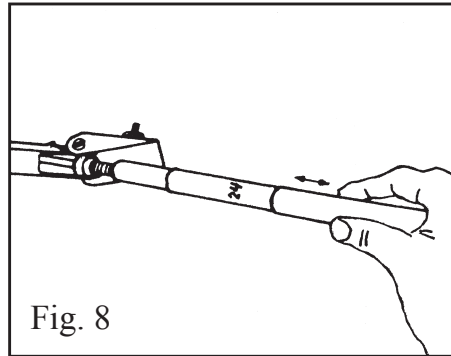

Fig. 8
Draw back the thermometer cover (13) **without turning it and without removing it completely from the thermometer.** See Fig. 8.